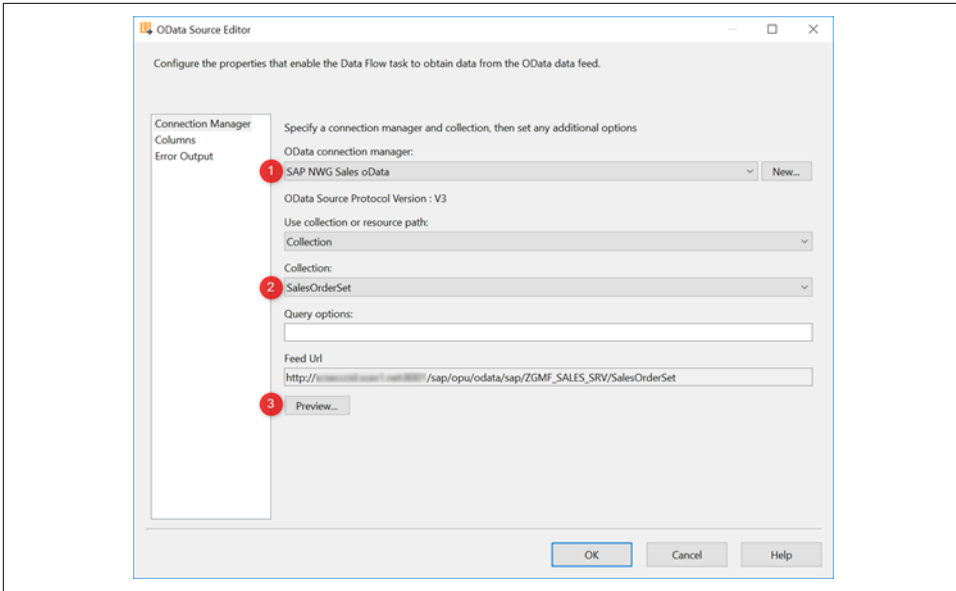

Figure 5-54. OData source settings for the SAP connection
4. Click on the Preview button (Figure 5-54).